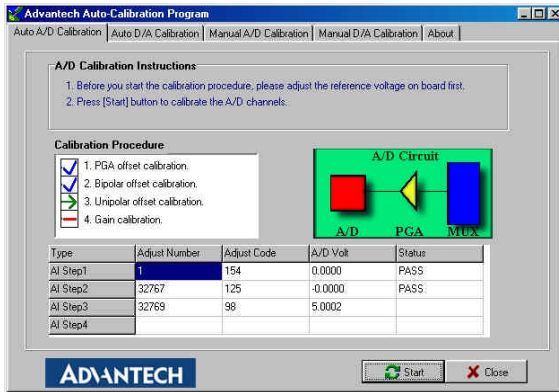

Fig. 5-7: A/D Calibration Procedure 3
Step 7: The third A/D calibration procedure is enabled (Fig. 5-7)